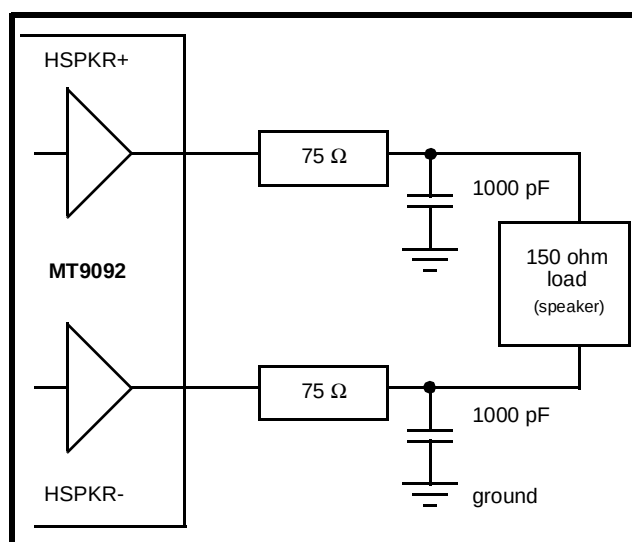

Figure 5- Handset Speaker Driver
- ◆ The handset speaker outputs (receiver), pins HSPKR+/HSPKR-. This internally compensated, fully differential output driver is capable of driving the load shown in Figure 5. This output is enabled/disabled by the HSSPKR EN bit residing in the Transducer Control Register (address 0Eh). The nominal handset receive path gain may be adjusted to either -12.3dB (suggested for μ -Law) or -9.7dB (suggested for A-Law). Control of this gain is provided by the RxA/ $\bar{u}$ control bit (General Control Register, address 0Fh). This gain adjustment is in addition to the programmable gain provided by the receive filter and DSP.